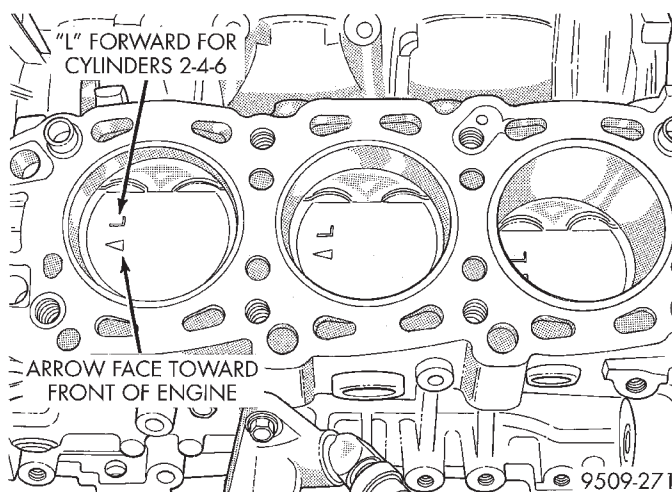

Fig. 78 Mark Pistons
- (1) Identify pistons with matching cylinder. **The pistons are not interchangeable from bank to bank** (Fig. 78). Pistons with the letter R and arrow toward the front of engine are to be installed in cylinders 1-3- 5. Pistons with the letter L and arrow toward the front of engine are to be installed in cylinders 2-4-6.